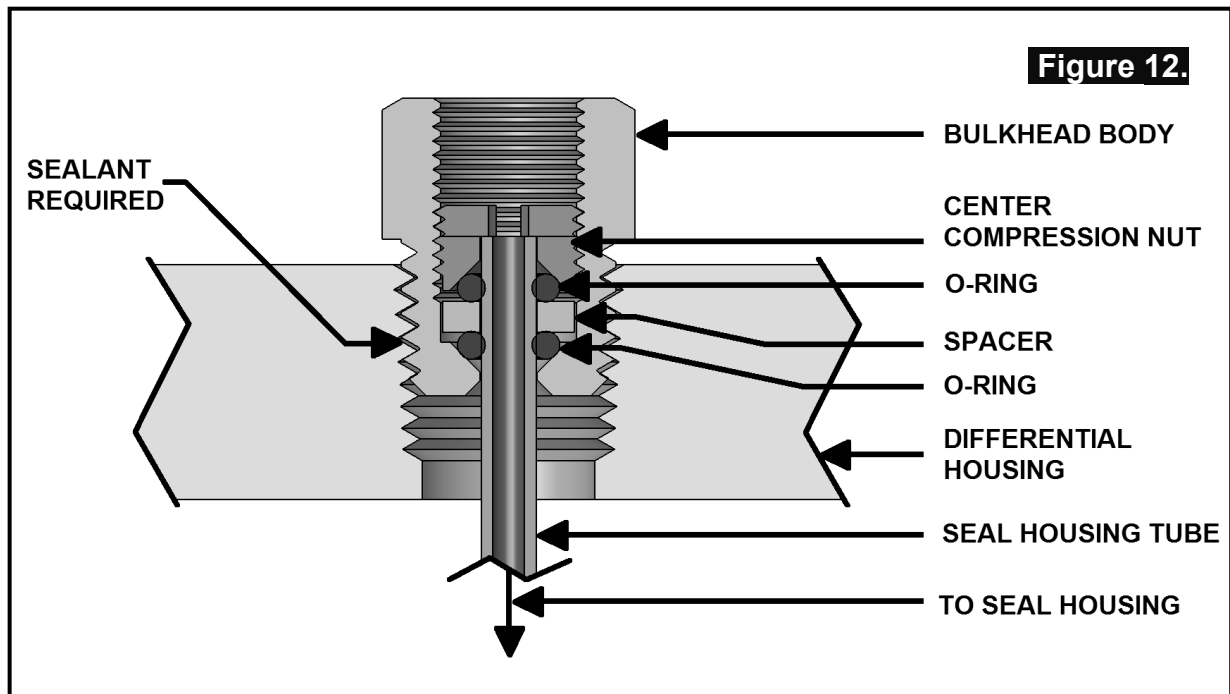

Figure 11.
- Without using sharp, jagged tools such as pliers (your hands are the best tool for this job), bend the seal housing tube on the outside of the housing to approximate the finished profile. This will allow the tube to be trimmed to a length that would allow it to protrude from the bulkhead fitting. (Fig. 11.)